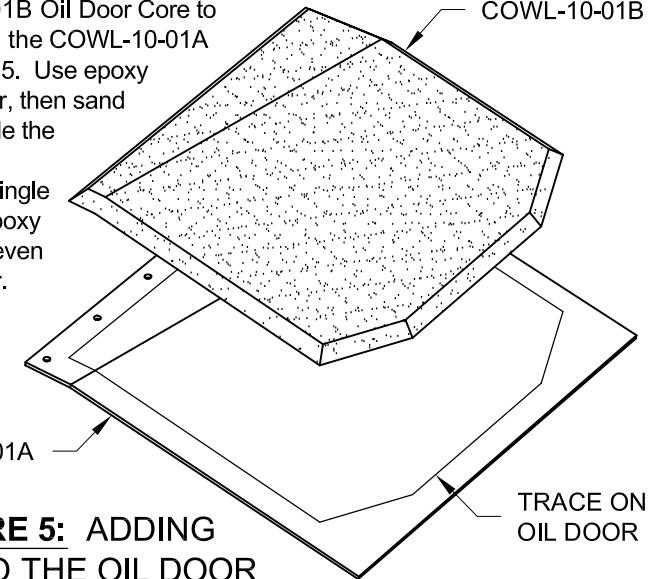

FIGURE 5: ADDING CORE TO THE OIL DOOR
Step 8: Trim the COWL-10-01B Oil Door Core to roughly fit the trace made on the COWL-10-01A Oil Door as shown in Figure 5. Use epoxy resin to bond it to the oil door, then sand the edges until they are inside the trace by an $\frac{1}{8}$ " and beveled approximately 45°. Apply a single ply of 8 or 9 oz. glass with epoxy resin over the oil door core, even with the edges of the oil door.